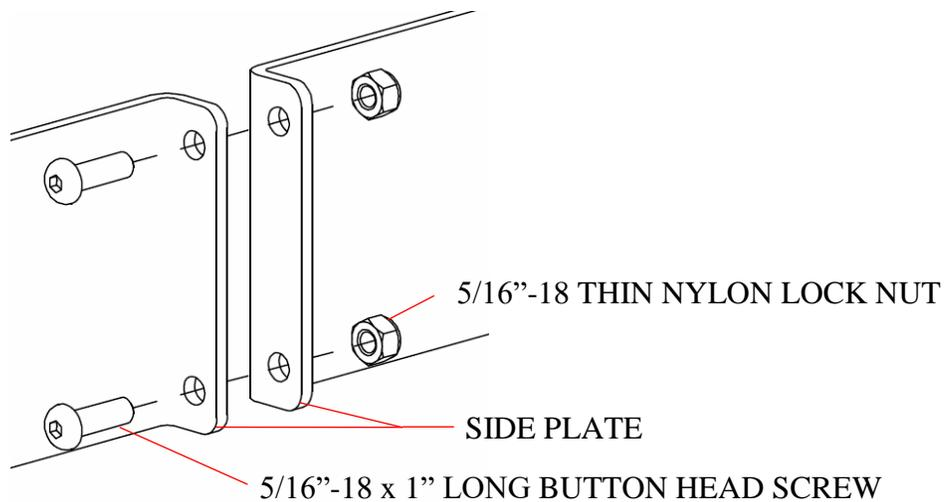

Figure 5
- 2) Secure both halves together using 5/16-18 x 1" long button head screw and 5/16"-18 thin nylon lock nut (as shown in Figure 5).